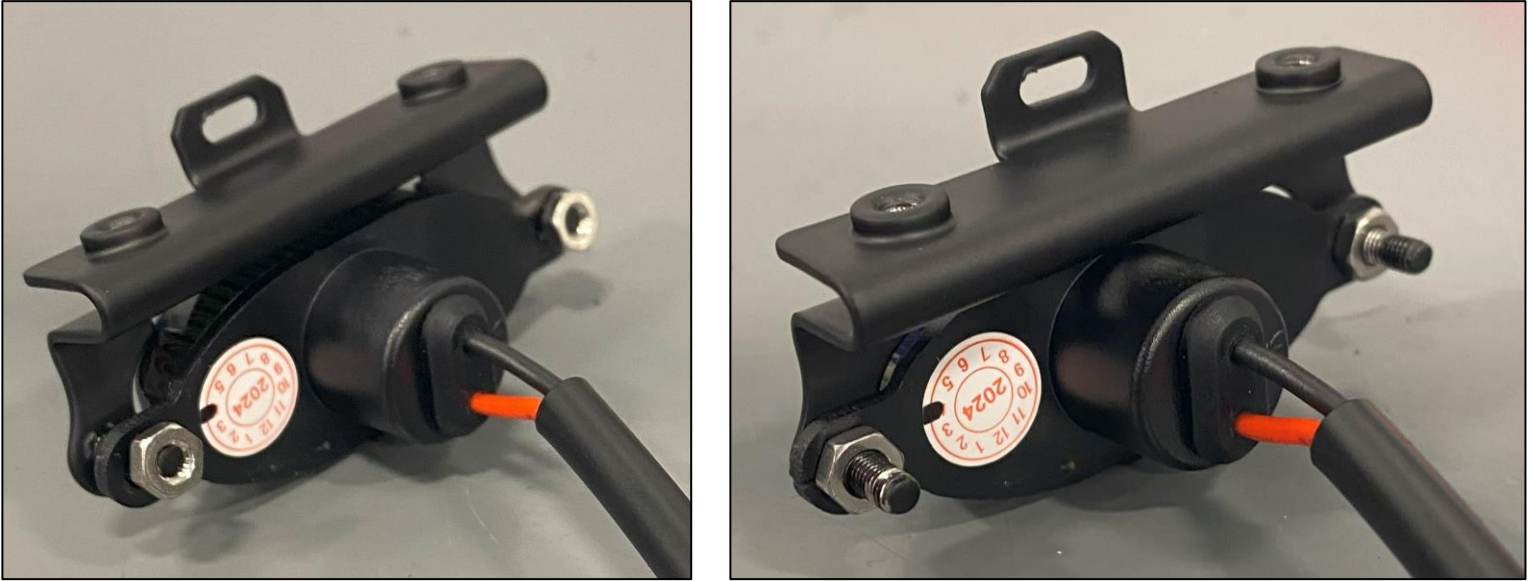

Figure 3
5. Locate the (4) four Light Brackets, (4) four Lights, and (8) eight M3 x 0.8 Nuts. Secure the Lights to the Mounting Brackets with the Nuts as shown below. *Figure 3.*